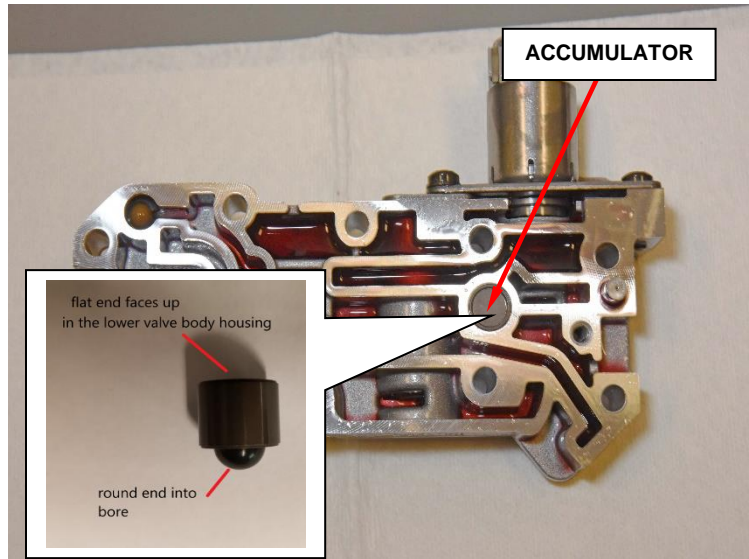

Figure 6 - Accumulator
- Verify the accumulator is in the correct position flat side facing up in lower valve body housing (Figure 6).
NOTE: Accumulator could stick to separator plate as separator plate is being removed from lower valve body housing, reinstall accumulator if it comes out of position as illustrated in Figure 6.